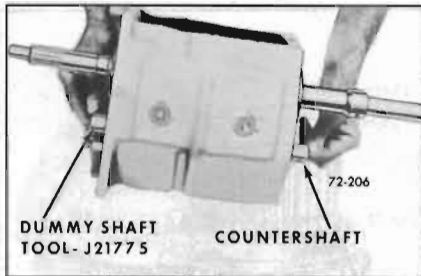

Figure 72-206—Removing Countershaft With J-21775
11. Using countershaft alignment Tool J-21775, drive countershaft out rear of case. See Figure 72-206.